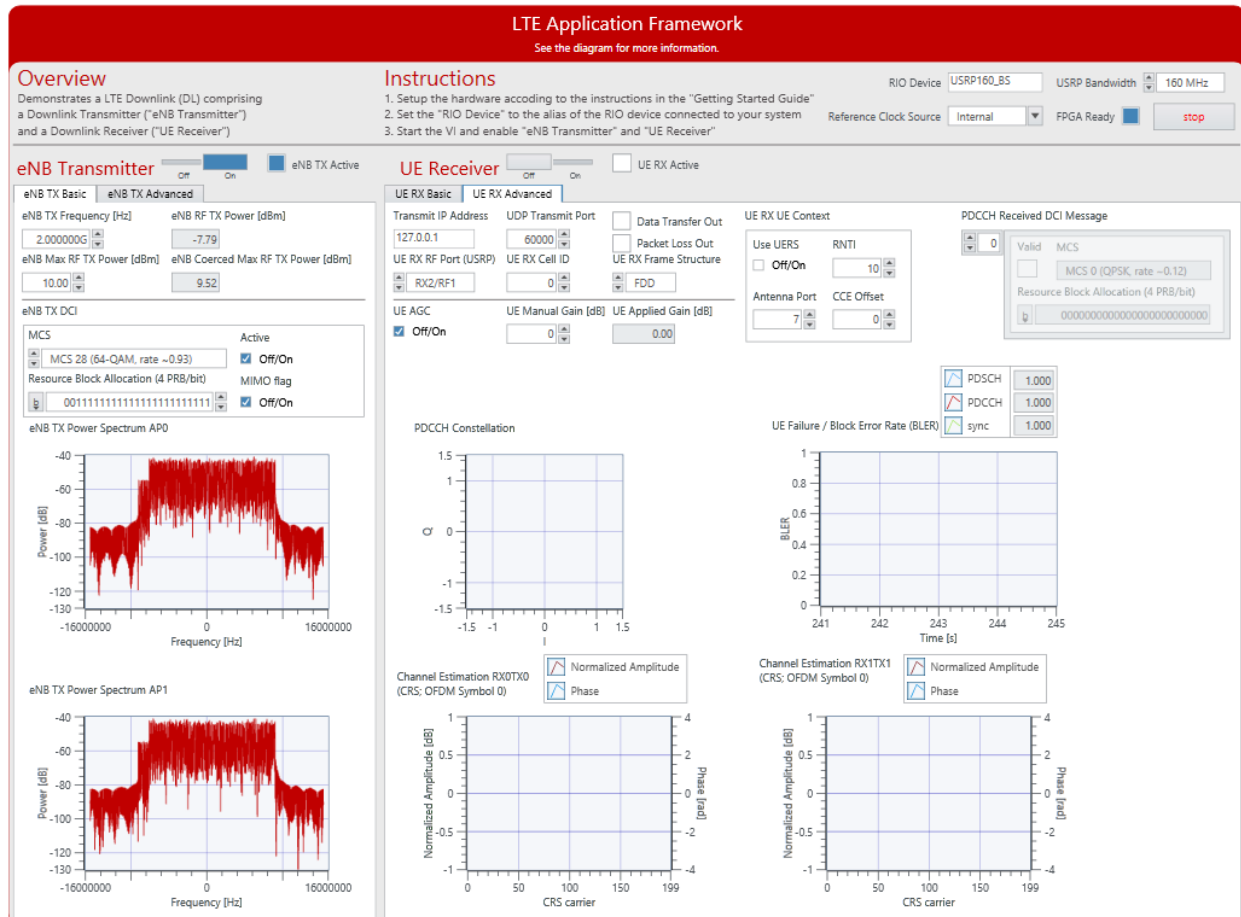

Figure 4: Front panel of eNodeB
2. Open the host top-level “**LTE Host DL MIMO.gvi**” located in **MIMO Extensions** folder. The front panel of this VI is shown in Figure 4. The description of all controls and indicators can be found in the **Getting Started Guide of LTE Application Framework 2.0.1**.
8. Enable the downlink MIMO by setting the switch control **MIMO flag** presented in Figure 4 to **On**.
- If the control of **MIMO flag** presented in Figure 4 is enabled, both RX chains in the UE are active otherwise the system works as SISO.